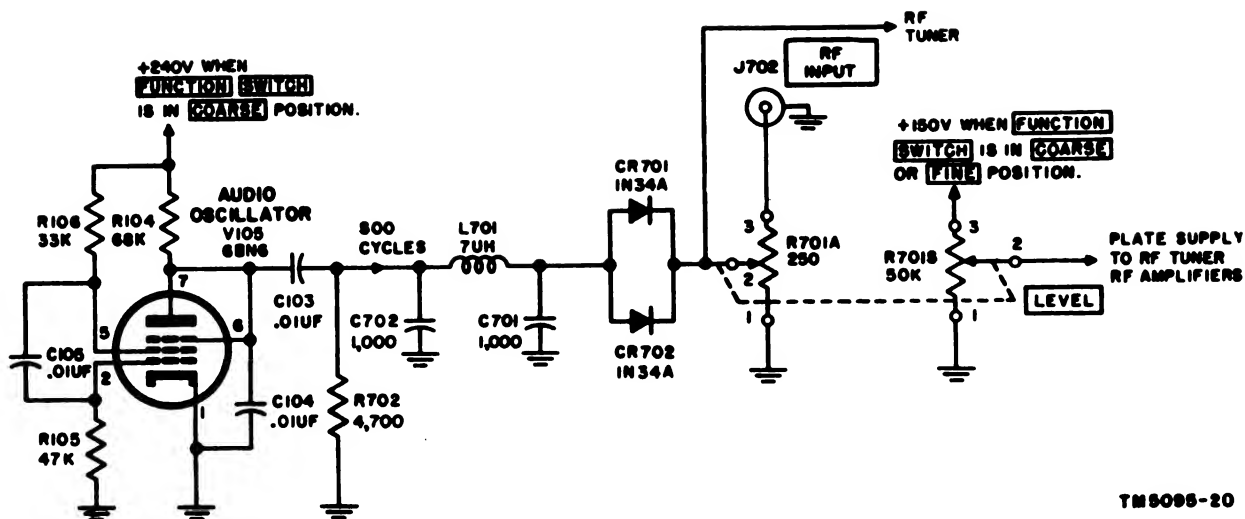

Figure 18. Audio oscillator and modulator, simplified schematic diagram.
44. Audio Oscillator (fig. 18)